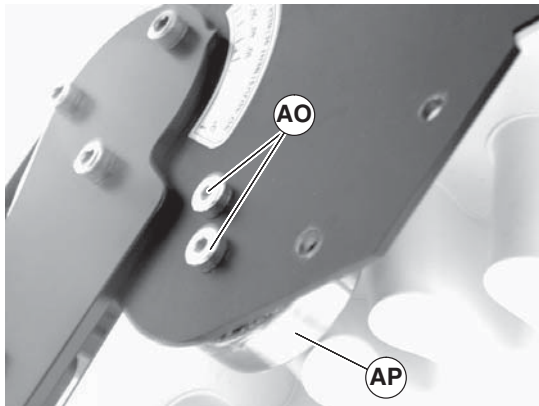

Figure 26
- Remove screws (Figure 26, item AO) and remove roller bearing (AP).